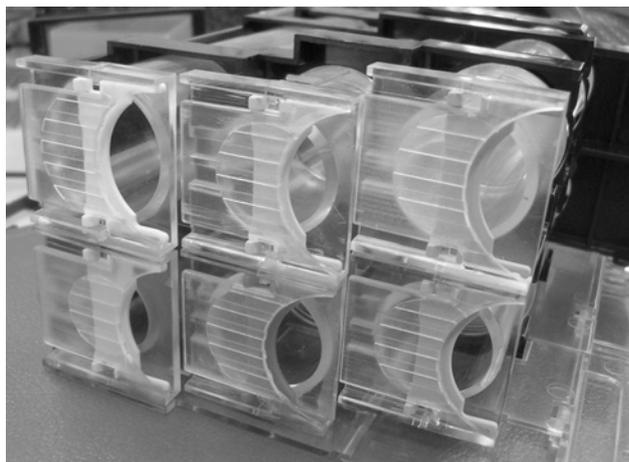

fig. 10
- 1) all the extractors must be aligned (fig.10)